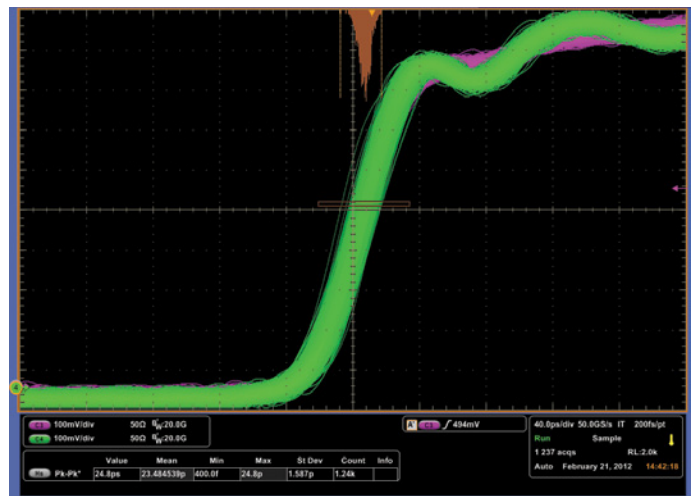

Figure 11. Multi AWG channel alignment using AFG.
7. Adjust the Phase on AFG Ch2 until Markers on AWGs align on scope as in Figure 11.